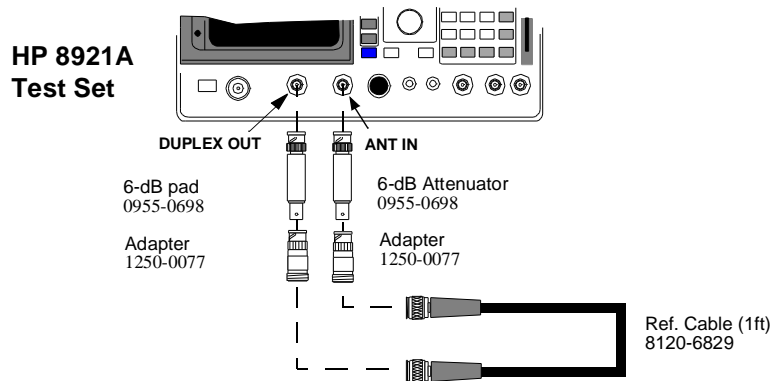

Figure 51
- 5 Make the connections shown in *figure 51, "TX Power Reference"* and then press **k2 (Continue)**.